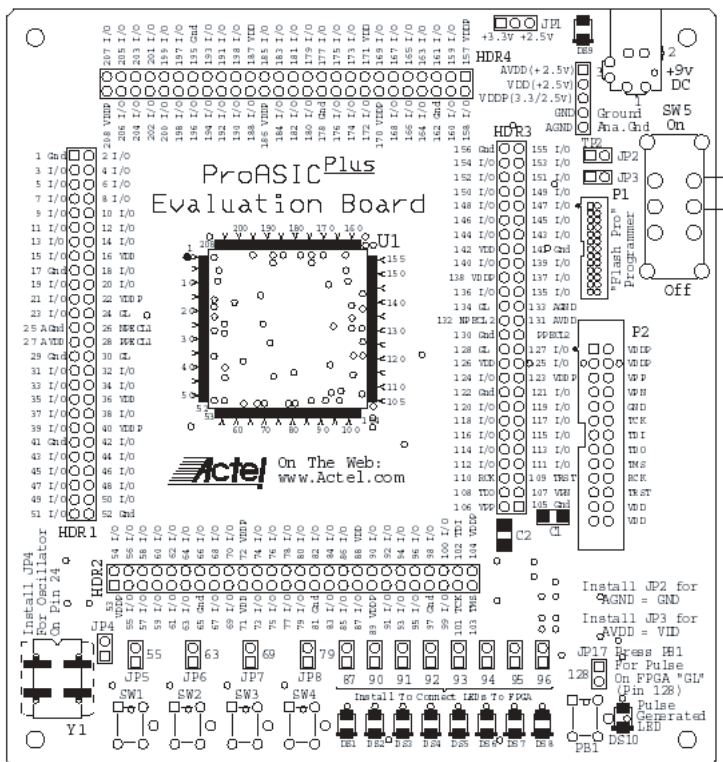

Figure 2-1. ProASICPLUS Evaluation Board: Top-Level View
Figure 2-1 illustrates a top-level view of the ProASICPLUS Evaluation board.
3. Perform the actions described in Table 3-1. For locations of the switches mentioned in Table 3-1, refer to Figure 2-1 on page 9.